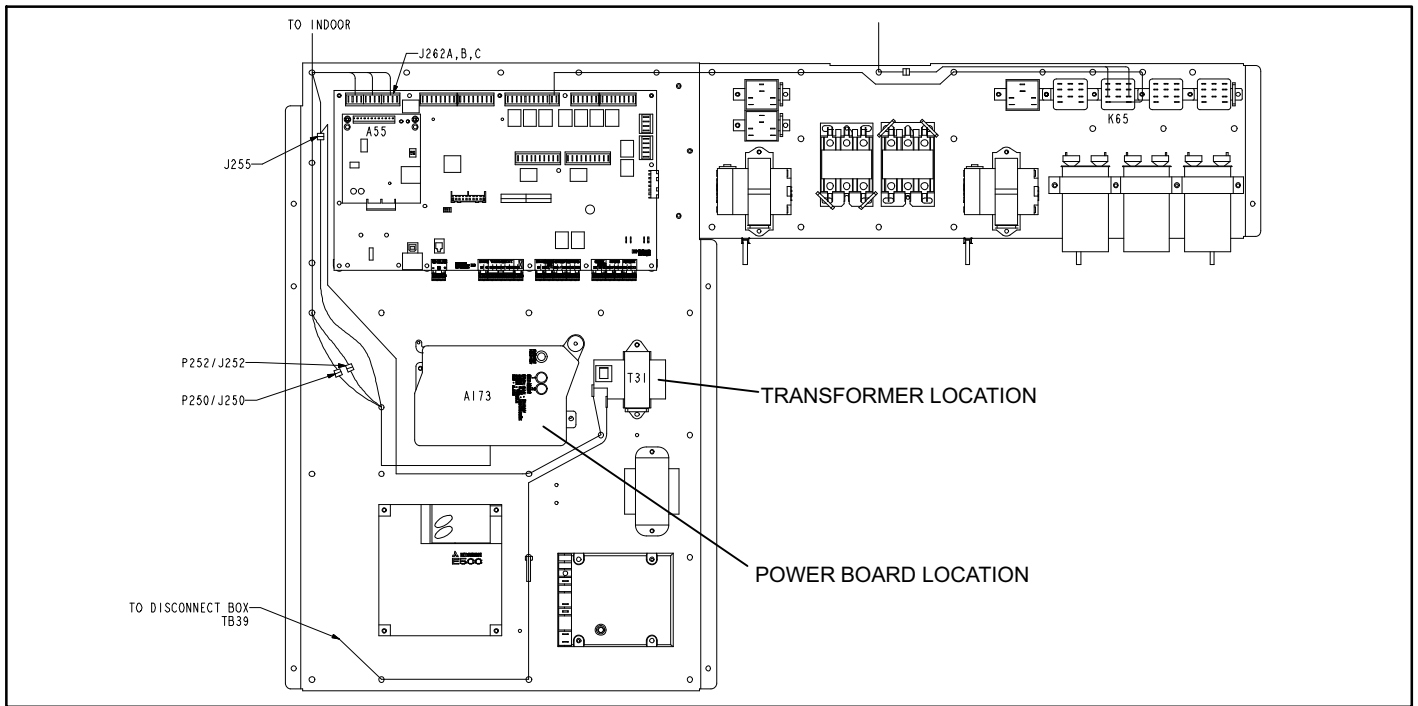
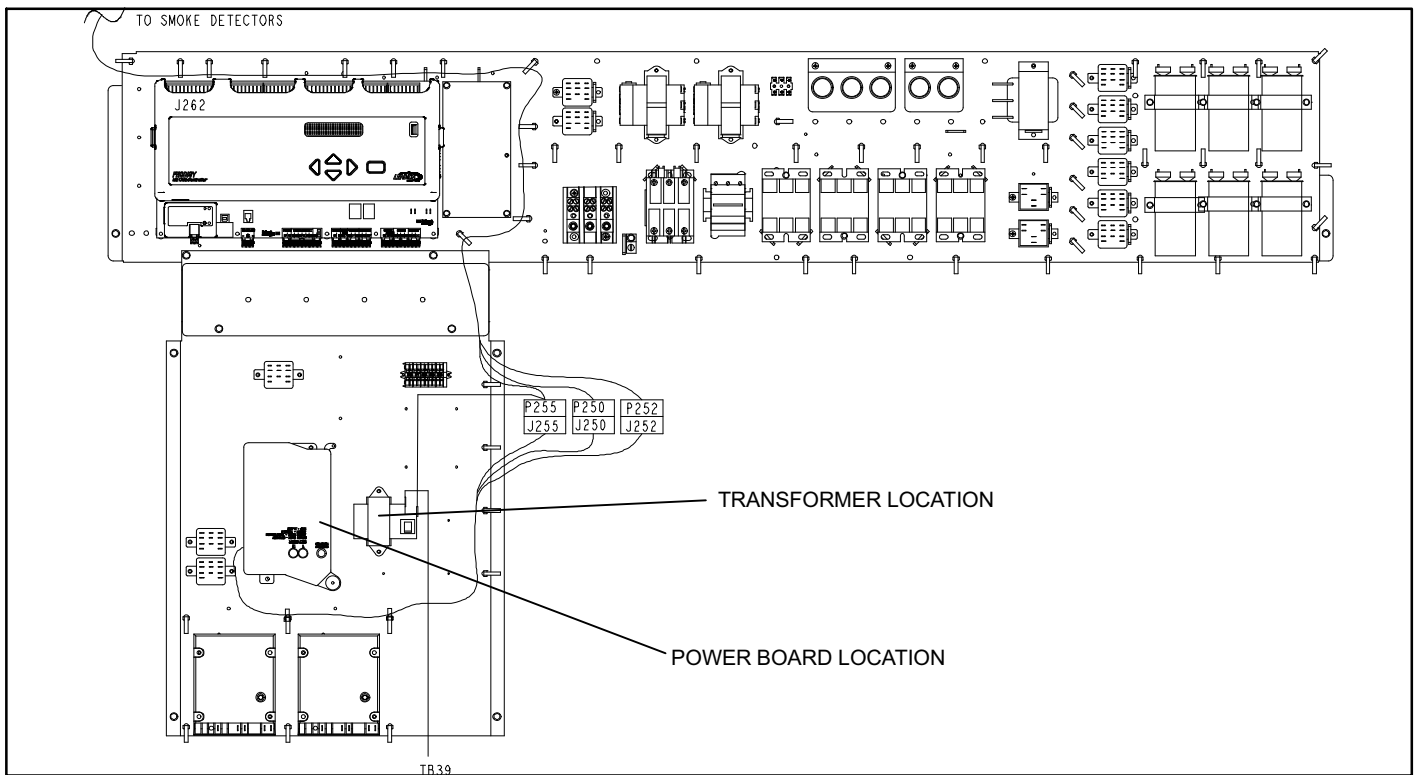
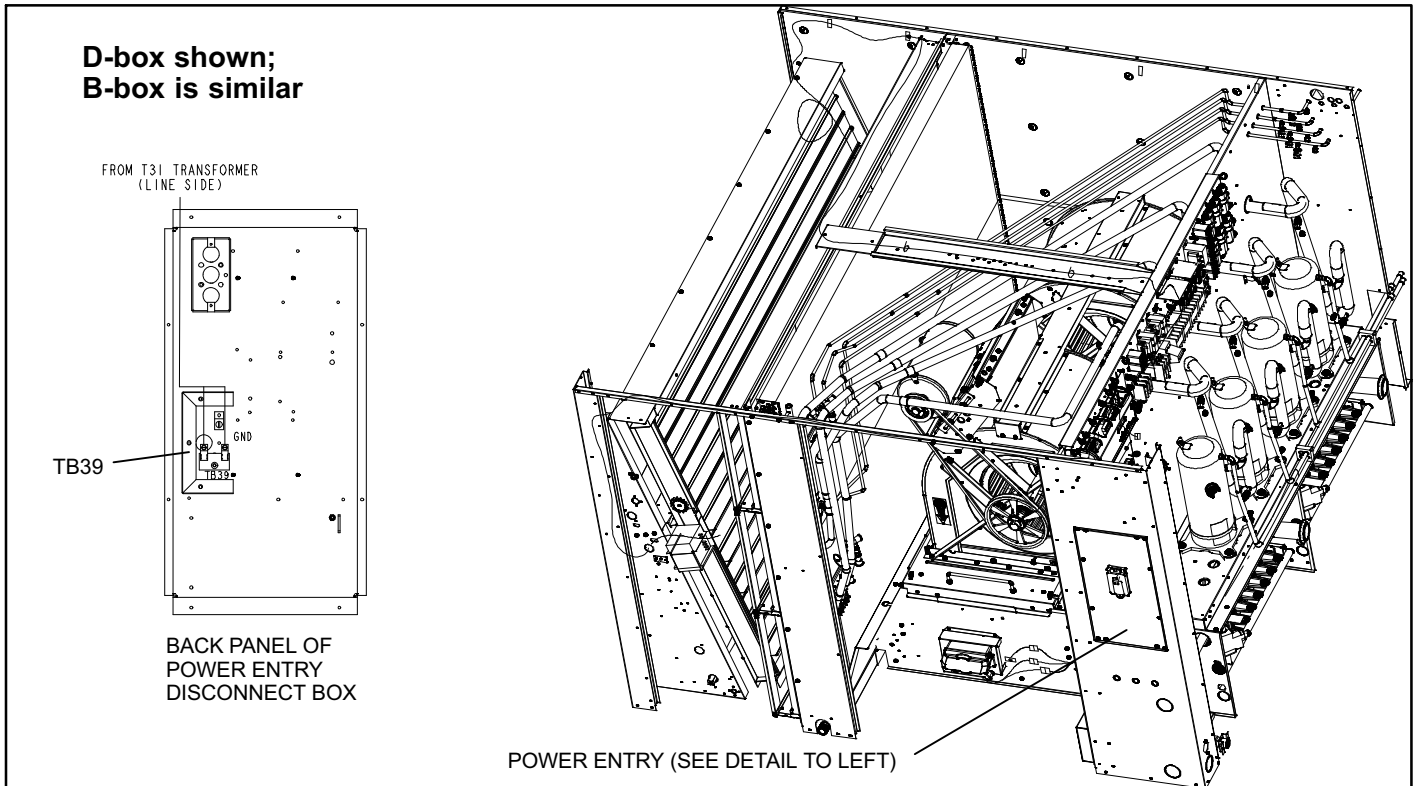

Figure 3. Power board / transformer location (B-box)
Figure 4. Power board / transformer location (D-box)
Figure 5. Transformer harness routing
Use manufacturer's instructions provided with smoke detector to install sensor(s) and power board. Refer to figure 3 for B-box power board location and figure 4 for D-box power board location. Secure control board to control panel with #8-32 screws provided.
Mount transformer to control board panel next to the smoke detector power board. See figure 3 (B-box) or figure 4 (D-box).
2. Route T31 transformer harness from line side of transformer to TB39 located on back of main disconnect box (see figure 5). Connect load side of transformer to smoke detector control board power harness (see figure 3 for B-box and figure 4 for D-box).